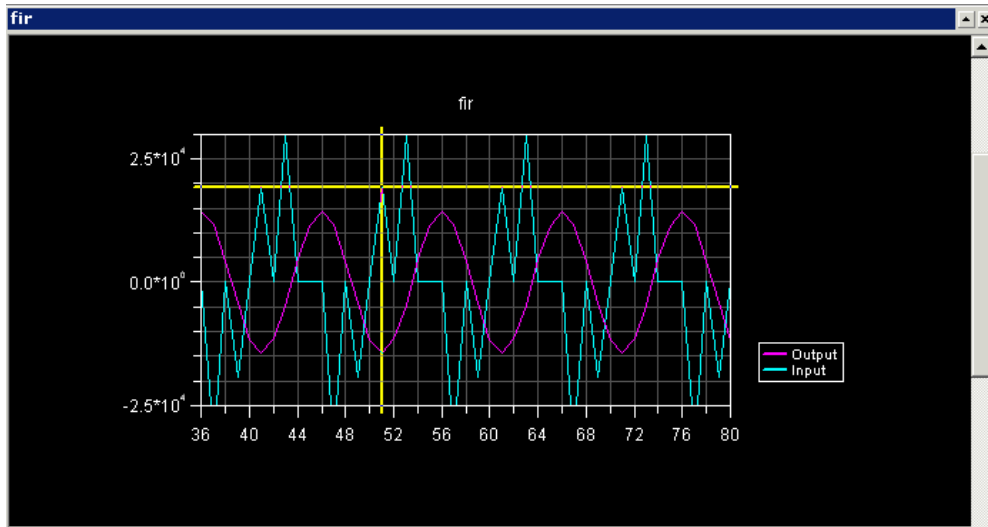

Figure 2-28. Plot Window: Using the Data Cursor Feature
3. Right-click inside the plot window and choose **Data Cursor** from the pop-up menu. Move to each data point in the current data set by pressing and holding the keyboard's left or right arrow key. To switch data sets, press the keyboard's up or down arrow key. The value of the current data point appears in the lower-left corner of the plot window, as shown in Figure 2-28.